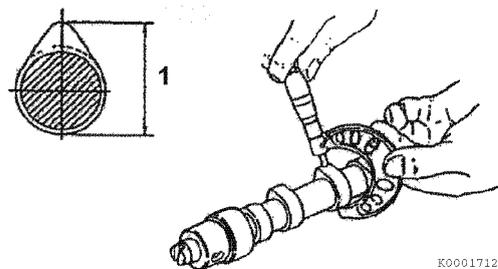

Figure 6-83
3. Measure the height of each lobe (1, **Figure 6-83**). See *Camshaft on page 6-7 for specifications.*